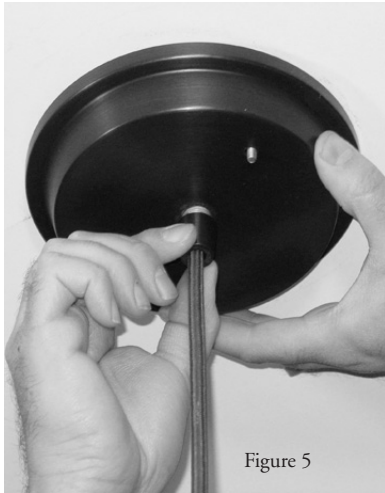

Figure 5
Step 7 Install decorative knobs onto the threaded studs and secure against the canopy. (See Figure 5)